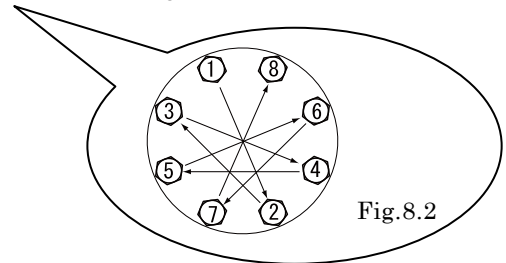

Fig.8.2
- Tighten the bolts in the order shown. [Fig.8.2]